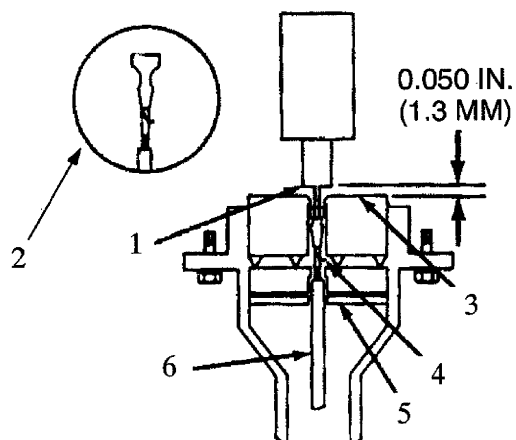

Figure 91 Insert Tool into Each AMP Connector Terminal
13. When all wires are inserted into connector, make sure the terminals were not damaged during replacement. Inspect the connector for "pushed back" or "expanded" terminals, using a special tool, Cummins Part No. 3823383 (Figure 91). Insert the tool into each AMP connector terminal. Do not force the tool into the terminal.
A terminal that is not pushed back or expanded will have a surface to tool gap (Figure 91) of approximately 0.050 in. (1.3 mm). If the tool touches the connector (without forcing), replace the terminal.